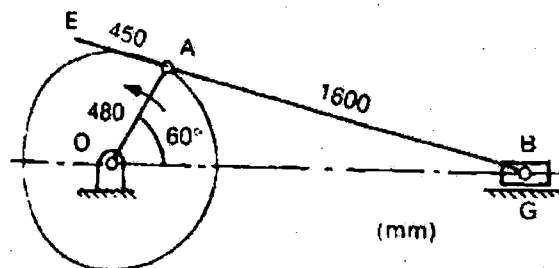

Fig. 12 (b)
- (b) A single slider-crank mechanism is shown in Fig. 12 b. Determine the acceleration at B & E and the angular acceleration of the link AB . The crank rotates at 20 rad/s counter-clockwise.